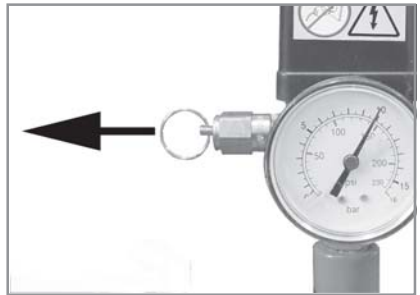

Figure 7
- 2 Check the operation of the safety valve, under pressure, daily by pulling the ring as shown in figure 7. Air should be released you pull the ring and stop when the ring is released.